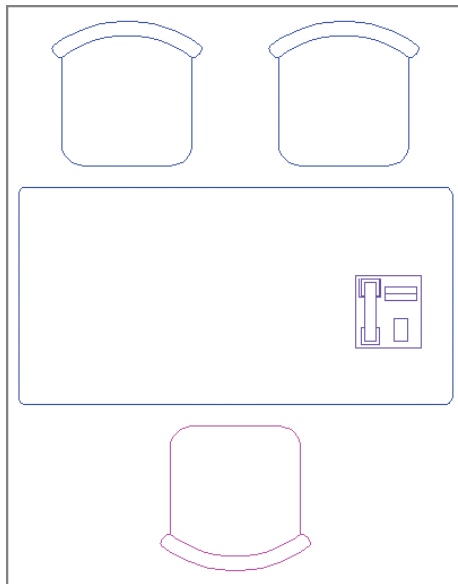

FIGURE 7.21 A phone nested within the desk block and surrounding chair blocks
6. Select the phone block, type **qp** (for Quick Properties), and press Enter. Change Layer Assignment to Equipment, click the close box to exit Quick Properties, and press Esc to deselect (see Figure 7.21).